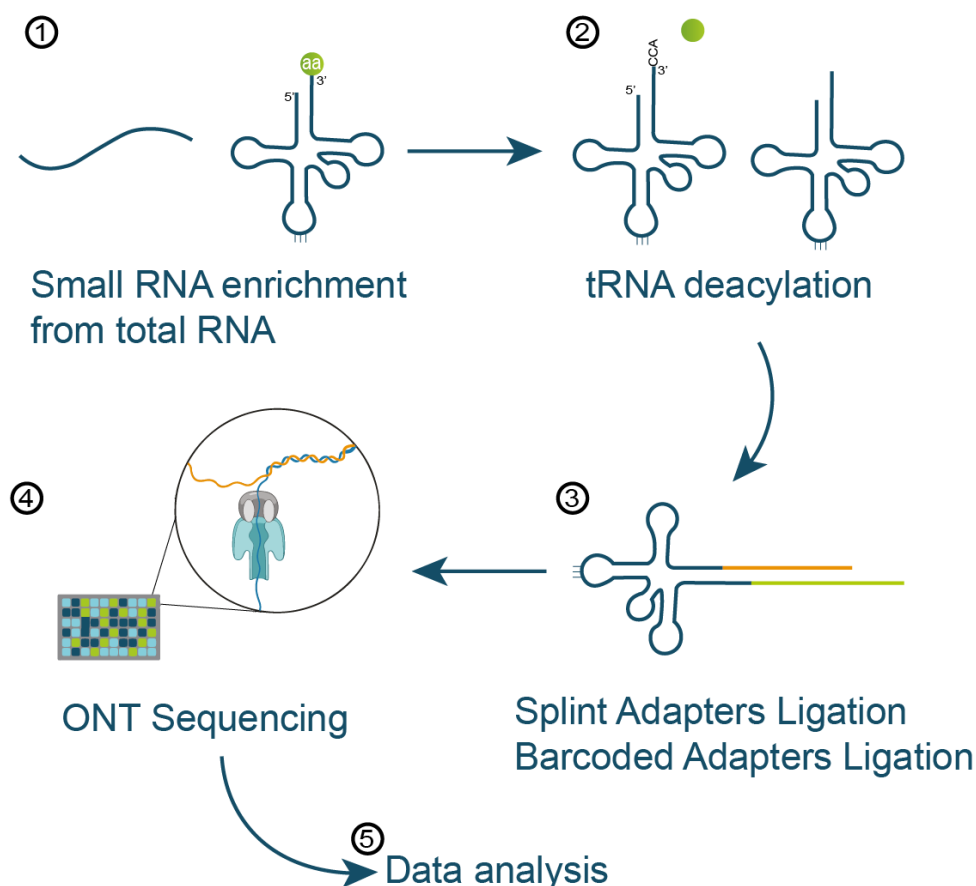

Figure 1. Simple overview of the nano-tRNAseq protocol.
The first step in nano-tRNAseq comprises small RNA enrichment from total RNA (1). After deacylation (2), the tRNAs are bound with adaptors and subsequently to barcodes (3), allowing for multiplexing of up to 6 samples. The native tRNA is then sequenced on the Oxford Nanopore Technologies (ONT) platform (4). As tRNA is transversing the pore, each base generates an electrical current, which is converted into the tRNA sequence. After data analysis (5), information on tRNA abundance, coverage and post-transcriptional chemical modifications are obtained (Figure 1).